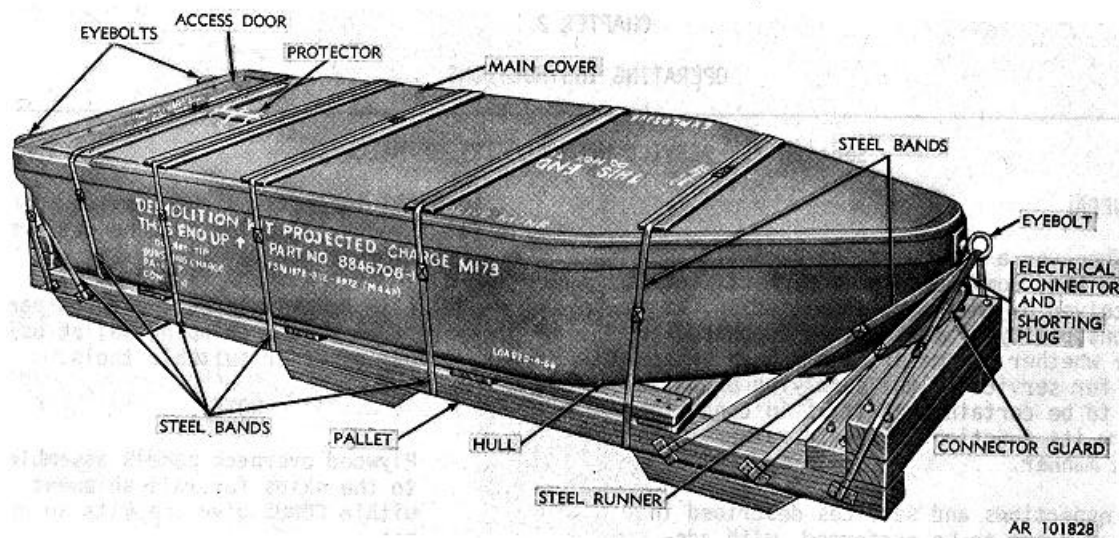

Figure 2-1. External inspection and service points
(2) Carefully inspect all external portions of the hull, main cover, and access door (fig. 2-1). There must be no indication of cracks, tears, punctures, ruptures, or any other sign of external physical damage to the hull, main cover, or access door. The three eyebolts (two rear and one front) and the three steel runners must be properly and securely attached to the hull. Remove protector from thruster mounting bracket, inspect mounting bracket, and reinstall protector. (Some kits have felt protectors, other kits have plastic protectors.) The mounting bracket on the main cover must be clean and undamaged to permit easy assembly of the propellant actuated thruster. Inspect electrical connector under front eyebolt. Unscrew shorting plug and make certain plug and connector are not damaged. Replace and secure shorting plug in connector. Plug must be properly attached by a connected chain.
Using any suitable cutting tool (tin snips, cutting pliers, shears, etc.), cut the 1-1/8-inch steel bands (fig. 2-1) around the hull and covers. Use care to avoid injury when cutting bands. Discard the bands.